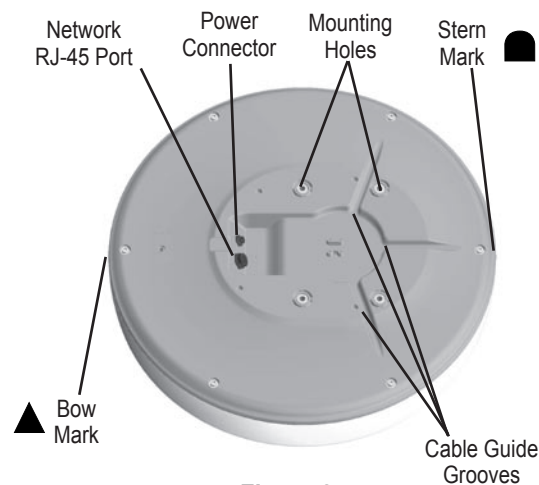

Figure 2
3. Align the notch and locking ring on the Power Cable to the power connector. Press the 2-pin Power Cable to the power connector and the RJ-45 Marine Network Cable to the RJ-45 socket (Figure 2). Turn the Power Cable locking ring clockwise until it stops. Tighten the RJ-45 locking ring clockwise until it is firmly sealed.
4. The Power/Network Cable may be pressed into one of the three guide grooves moulded into the bottom of the scanner case (Figure 2). Avoid excessive bending or twisting of the cable. See the following "Cable Runs" section for more information.
5. Position the scanner on the mounting surface with the triangular marks on the case aligned to the front of the vessel and the rounded marks aligned towards aft (Figure 2). A bead of marine sealant may be applied around each of the mounting holes on the mounting surface.